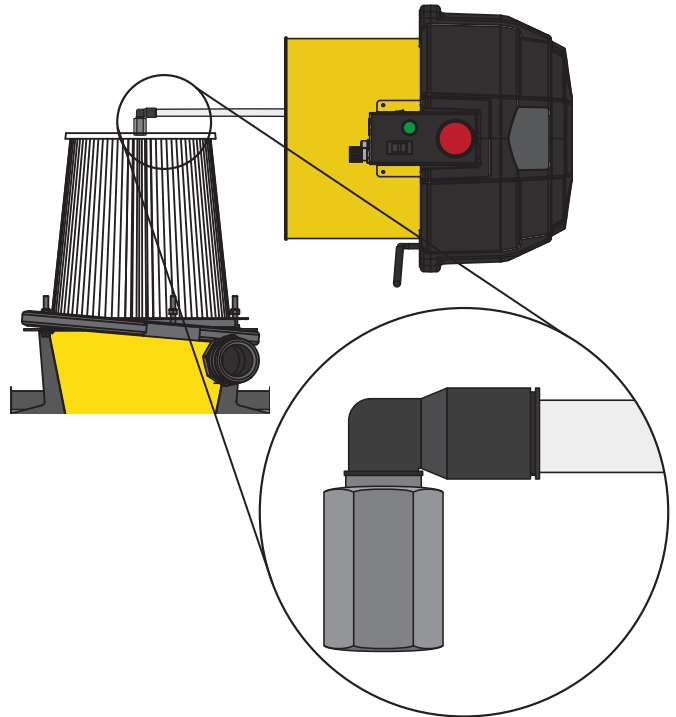

FIG. 8
Carefully lift the Motor Assembly (A) up and attach the 2' vinyl hose to the fitting located at the top of the Filter (E) [FIG. 8].